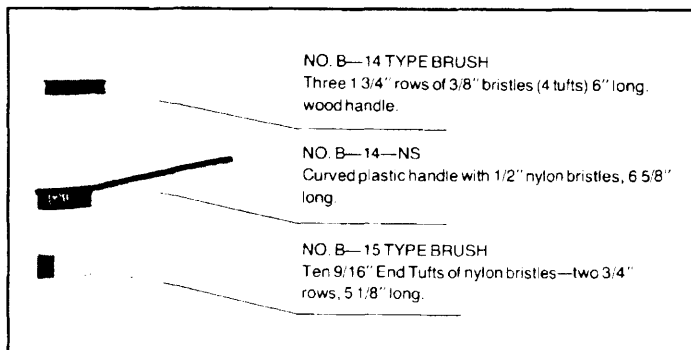

Fig. 4-20. Don't criticize the typical user for not keeping typefaces clean—just be prepared to do it yourself (courtesy of Ames Supply Company).
- ☐ Type cleaning brushes (Fig. 4-20).